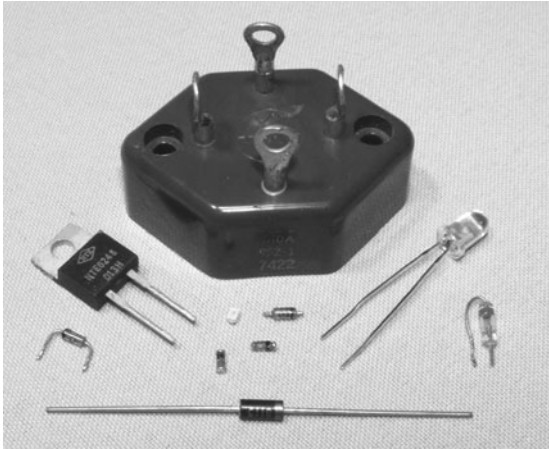
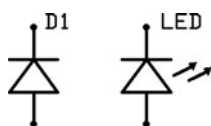

Figure 0-15 Several style of diodes including an LED.
Figure 0-16 Diode schematic symbol (LED on the right).
device, protect a circuit from a power reversal, and even give off light in the case of LEDs. Figure 0-15 shows various sizes and types of diodes, including an easily recognizable LED and the large full-wave rectifier module at the top. A full-wave rectifier is just a block containing four large diodes inside.
For example the NTE6248 diode shown in Figure 0-15 in the TO220 case (left side of photo) has a datasheet that indicates it is a Schottky barrier rectifier with a peak reverse voltage maximum of 600 V and a maximum forward current rating of 16 amps (A). Datasheets will tell you everything you need to know about a particular device, and you should never exceed any of the recommended values if you want a reliable circuit. The schematic symbol for a diode is shown in Figure 0-16, D1 being a standard diode, and the other a LED (the two arrows represent light leaving the device).